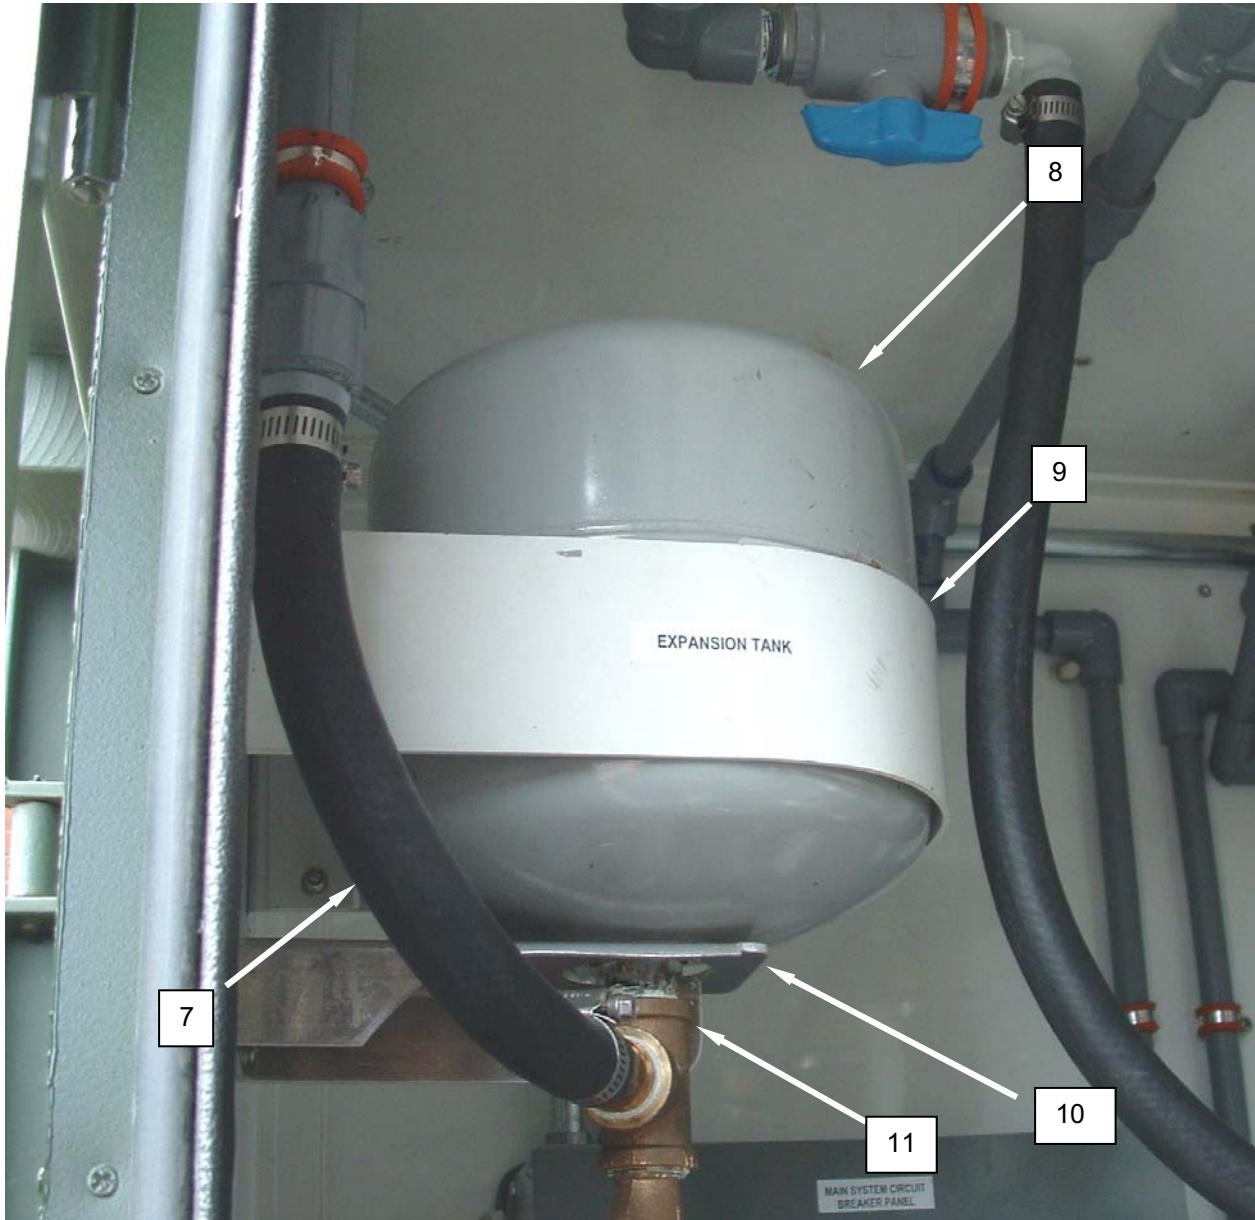

Figure 3. Replace the Expansion Tank.
3. Tag and disconnect hoses (**Figure 3, Item 7**) from tank (**Figure 3, Item 8**).
4. Remove screws retaining the tank mounting strap (**Figure 3, Item 9**) and the lower bracket (**Figure 3, Item 10**).
5. Secure the tee fitting (**Figure 3, Item 11**) with a pipe wrench, and unscrew the tank (**Figure 3, Item 8**) from the tee fitting.
6. Apply pipe sealer compound to the threads on the replacement tank (**Figure 3, Item 8**) and screw the replacement tank into the tee fitting (**Figure 3, Item 11**).
7. Ensure the tank (**Figure 3, Item 8**) is aligned so that the data decals are accessible.
8. Install the tank mounting strap (**Figure 3, Item 9**) and the lower bracket (**Figure 3, Item 10**), and retain with screws.
9. Connect hoses (**Figure 3, Item 7**) to tank (**Figure 3, Item 8**) as tagged.